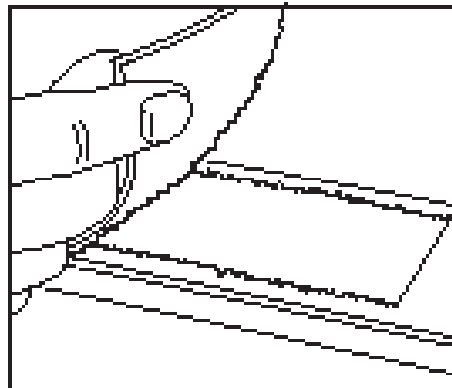

Fig.14
4. Reposition the Awnbrella arm back into the hanger blocks and roller tube, then use alcohol to clean the awning fabric directly opposite the black Velcro patch on the back of the Awnbrella arm. Attach a white Velcro patch to the black Velcro patch on the Awnbrella arm (**Fig.14**).